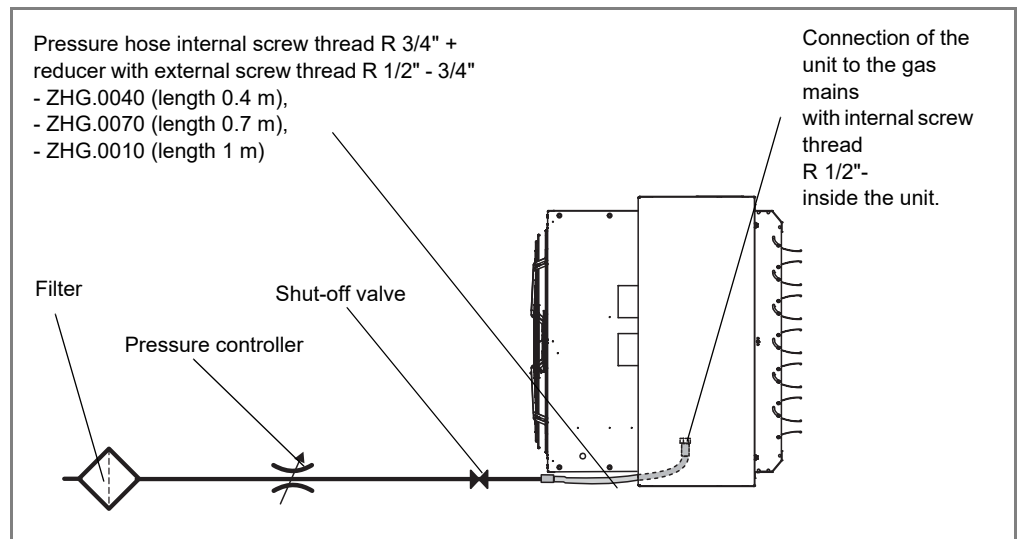

Fig. 6-1: Gas distribution
When connecting the unit to the consumer gas line by means of a connection hose, the European standard DIN EN 1775 Ed.2 must be taken into account. A manual shut-off valve must be used in the consumer gas line upstream of each unit. This gas valve must be placed in such a way that it is accessible for operation without any restriction (height restriction, etc.) with the designation of the limit positions. When connecting more units to one consumption line, it is recommended to install a gas filter (with a filtering capacity of min. 20 µm) and a gas governor upstream of the shut-off valve. Especially when there are large distances between units or the gas mains is complicated, the regulators with filters are necessary for proper unit operation. The gas pressure regulator must be selected in such a way that the pressure at the burner inlet is ensured within the range specified in chapter 2.4 at the max. gas flow rate of 7 m³/h for the HG4# unit and 4 m³/h for the HG2# unit. The recommended connection diagrams for connecting the unit to the gas mains can be found at Fig. 6-1.
- Observe the gas pressure at the inlet (P1) when the burner is switched on. The gas pressure should have values in the range 2.5 - 3.5 kPa. If there are large pressure differences in individual units, it is necessary to increase the pressure in the gas mains and install a gas pressure regulator (see Fig. 6-1). Caution! If other units are switched on, the gas pressure can drop considerably! Use a gas analyzer to adjust the burner with regard to the existing installation and unit model (see chapter 7.1.2).